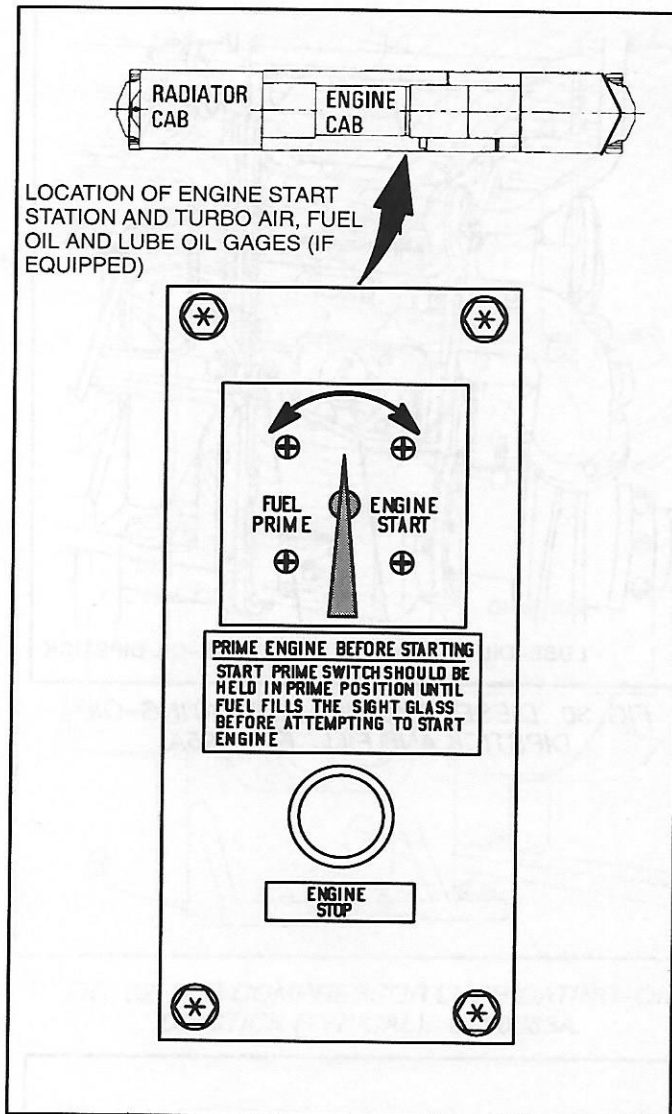

FIG. 28. ENGINE START STATION. E-39074.
ENGINE START STATION AND START SWITCH (Fig. 28)
In an emergency, any one of four electric pushbuttons may be depressed momentarily to cut off fuel delivery to the engine. One of these pushbuttons is located on each side of the locomotive platform near the fuel tank (Item 2, Fig. 31). The third and fourth pushbuttons are located on the Engine Control (EC) panel (Item 7, Fig. 6) and at the Start Station (Fig. 28) and are normally used for cutting the fuel delivery to the engine.